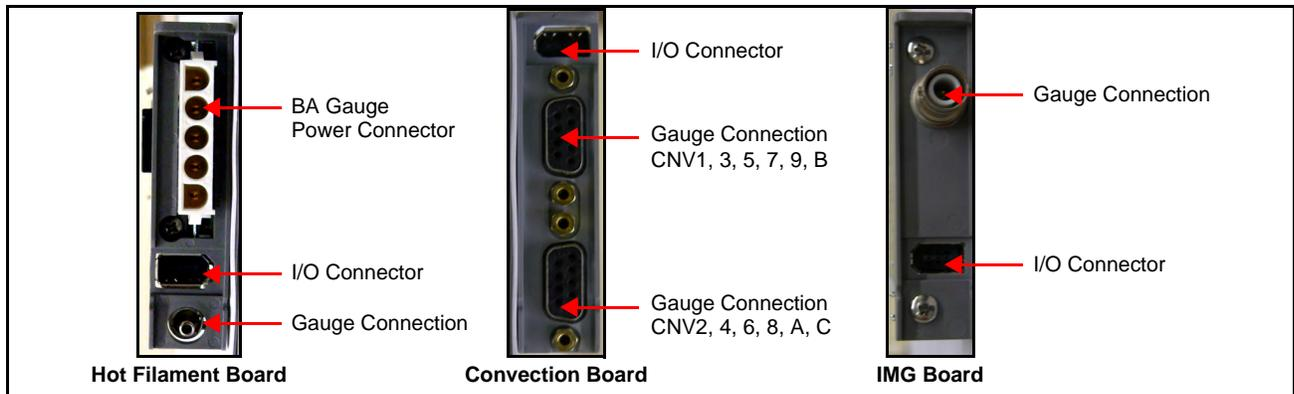

Figure 2-1 Gauge Board Rear Connections
2. Connect gauge and I/O cables depending on controller configuration according to Figure 2-1: